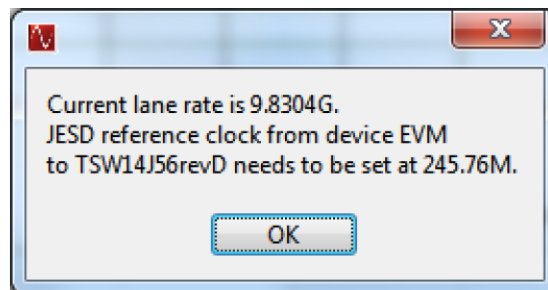

Figure 7. HSDC PRO SERDES Rate Calculation
- Click the OK button when the message in Figure 7 appears.